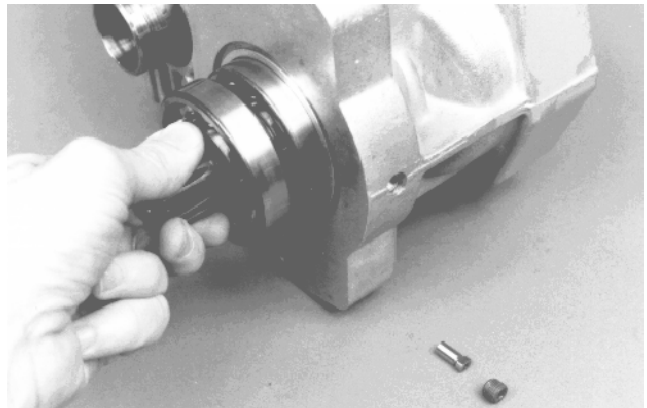

Figure 51
12. Remove motor shaft from housing (Fig. 51).